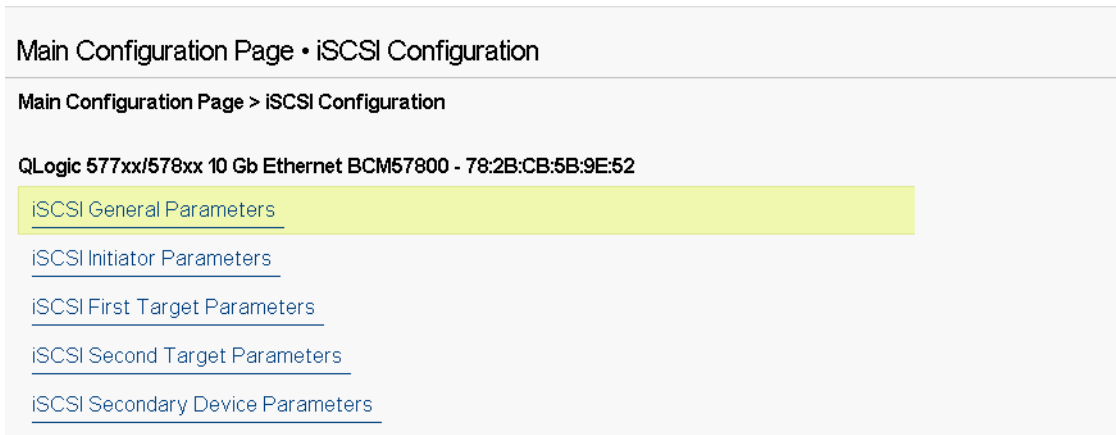

Figure 10-2. UEFI, iSCSI Configuration
2. Configure the iSCSI boot software for either static or dynamic configuration in the CCM, UEFI (see Figure 10-2), QCC GUI, or QCS CLI.